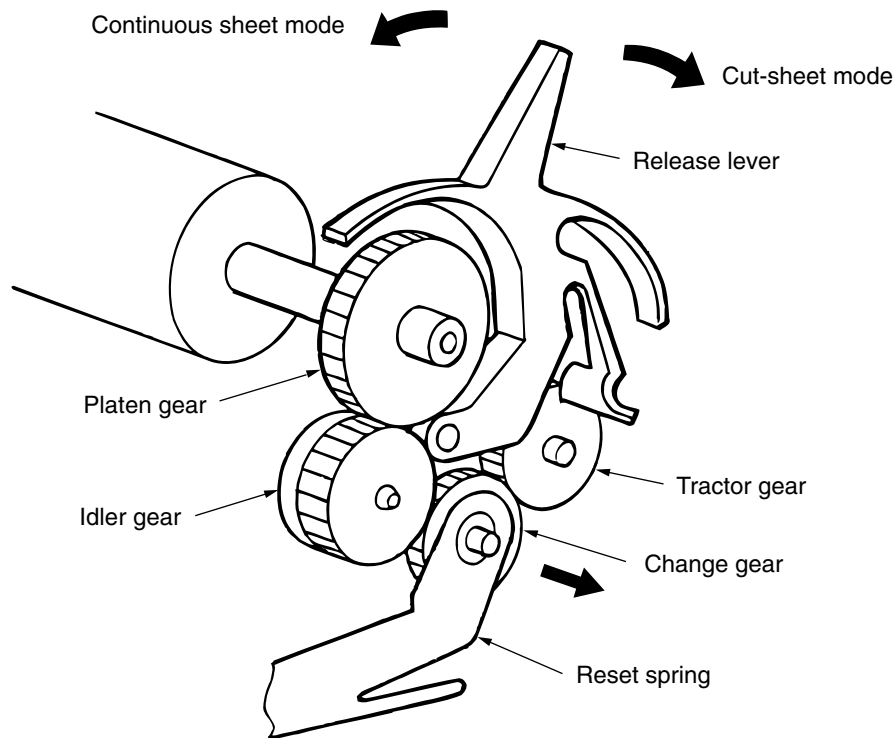

Figure 2-9
(3) Cut-sheet and continuous sheet switching mechanism (See Figure 2-9.)